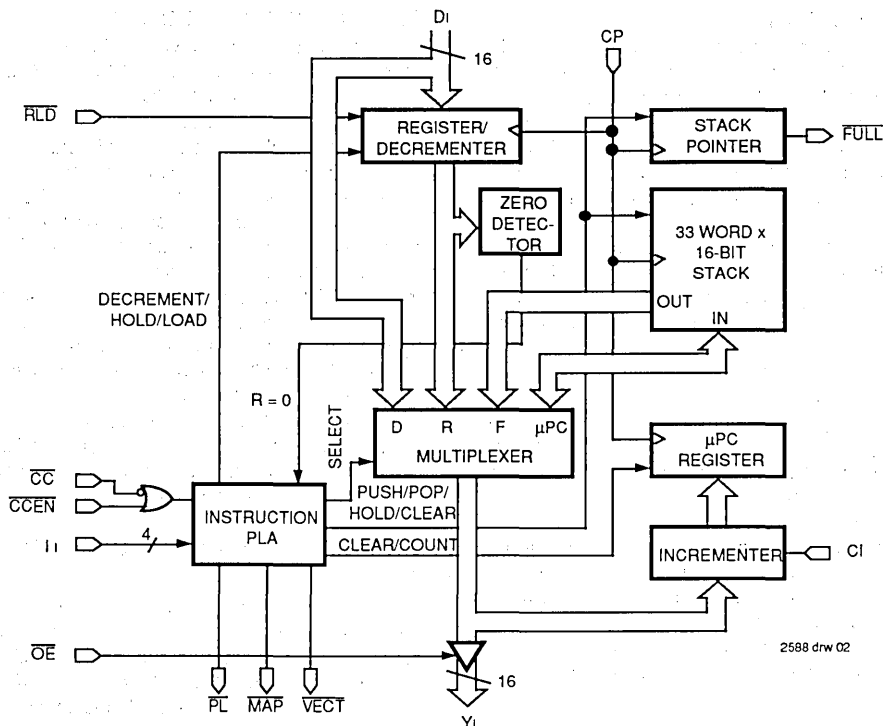

Figure 2. IDT49C410 16-bit Microprogram Sequencer
Referring to Figure 2, it can be observed that, during each microinstruction, the microprogram controller provides a 16-bit address from one of four sources: 1) the microprogram address register (μ PC) which usually contains an address of one greater than the previous address; 2) an internal direct input (D); 3) a register/counter (R) retaining data loaded during a previous microinstruction; 4) a last-in first-out stack (F).